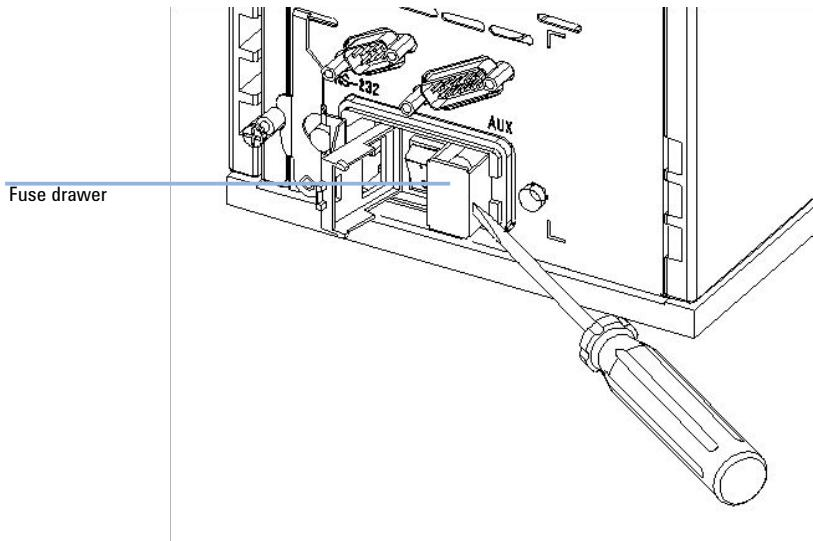

Figure 11 Remove fuse drawer
- 4 Pull out the fuse drawer as shown in Figure 11 on page 145.